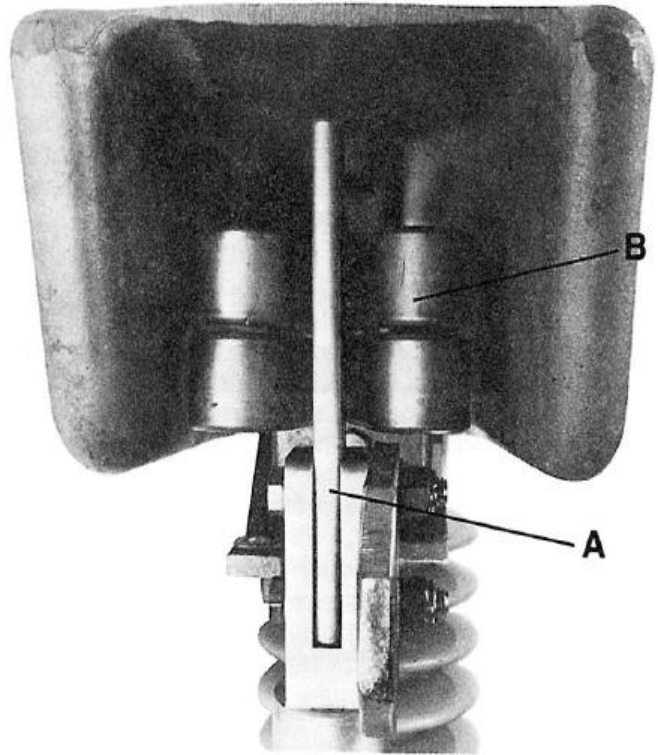

Fig. 5 Proper engagement of blade contact bar in switch jaw contacts.
Partially open and release the switch blade, checking to see the contact bar (A in Fig. 5) enters the switch jaw contacts (B) squarely. Adjustments can be made by shifting the actuating mechanism relative to the mounting holes in the structure or by adjusting the insulators. If the switch blade must be rotated in the switch blade clamp, follow procedure outlined in step 12. Tighten all mounting bolts